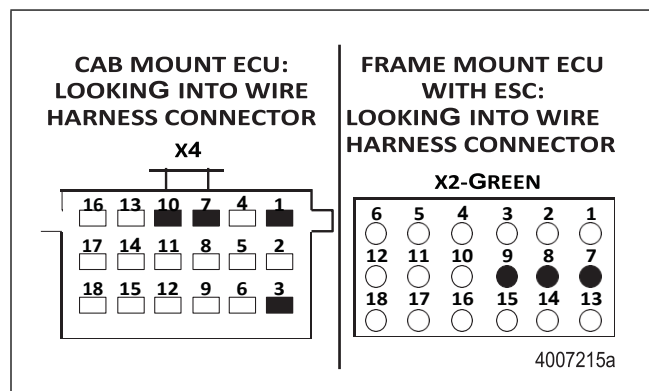
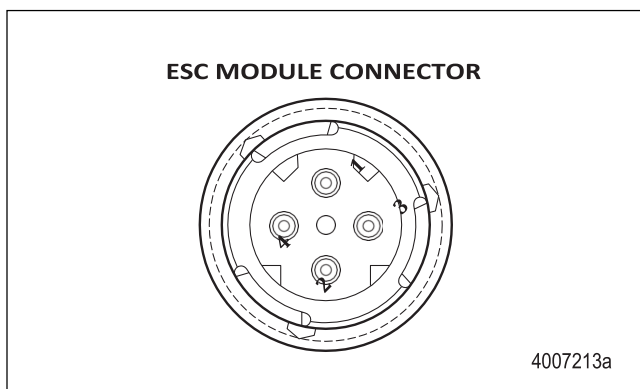

Figure 3.30
Figure 3.29
- Take measurements at the ESC module harness connector. Figure 3.29 and Figure 3.30.